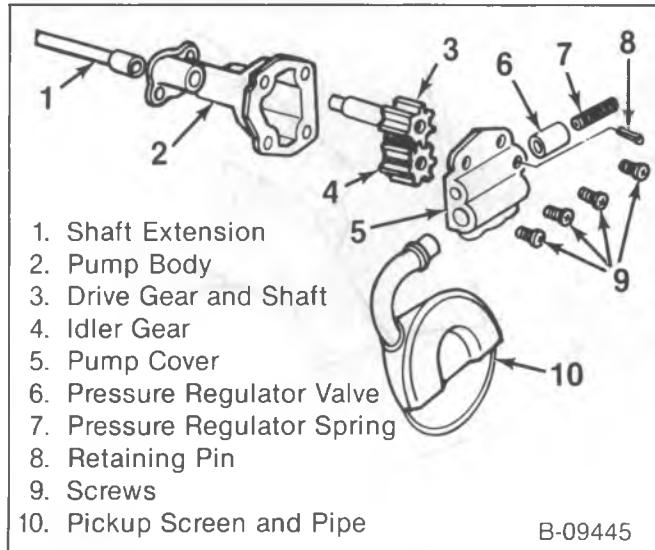

Figure 17—Oil Pump Components
↔ Remove or Disconnect (Figure 17)
**Inspect (Figure 17)**
- Pump body (2) and cover (5) for cracks or other damage.
- Drive gear and shaft (3) for lack of fit in the pump body (2).
- Inside of the cover (5) for wear that would permit oil to leak past the ends of the gears. The pump gears, cover, and body are not serviced separately. If the parts are damaged or worn, replace the entire oil pump assembly.
- Pickup screen and pipe (10) for damage to the screen, pipe or relief grommet.
- Pressure relief valve (6) for fit. The regulator valve should slide freely in its bore without sticking or binding.
**Install or Connect (Figure 17)**